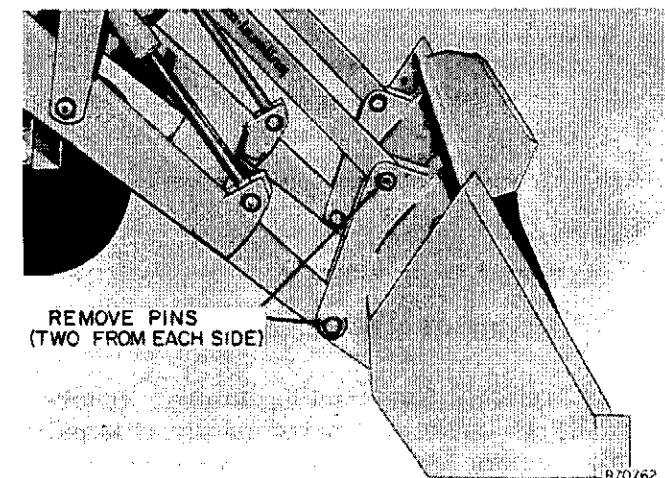

Figure 18 - Removing the Bucket
2. Refer to Figure 18, remove the snap rings and pins indicated (2) on each side, and then drive the tractor away.